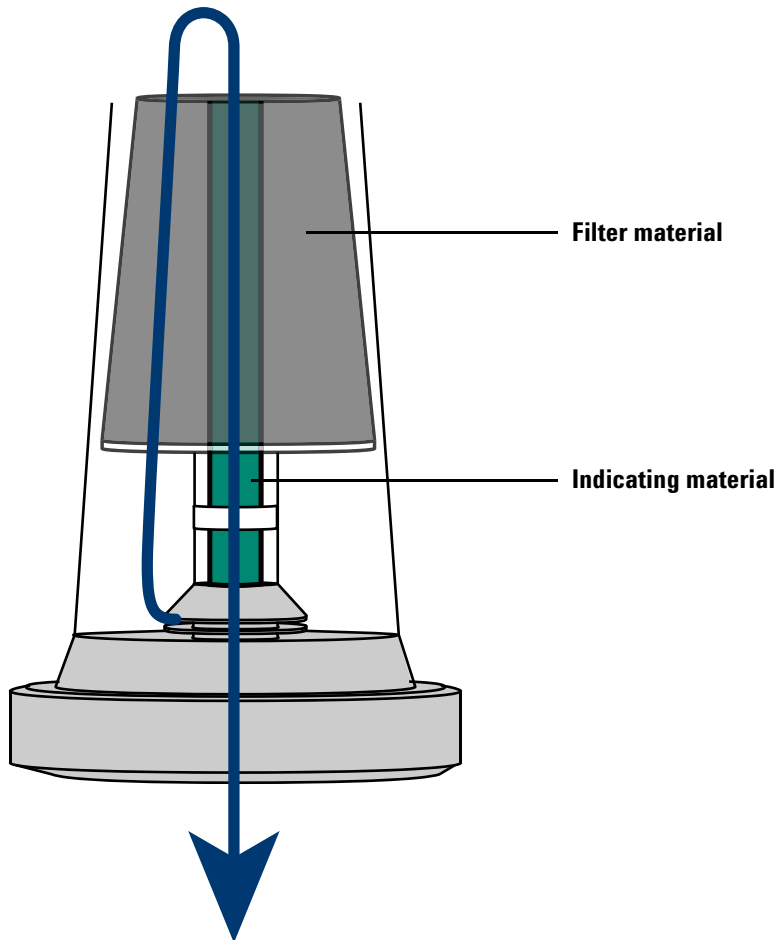

Figure 27 Flow of gas through the Gas Clean Filter
Gas flows in an upward direction from the bottom of the filter to the top, and then downward through the filter material, indicating material, and out the bottom of the filter (see Figure 27).
- 4 Remove the saturated filter by unscrewing the knurled ring that secures the filter to the connecting unit (Figure 27).